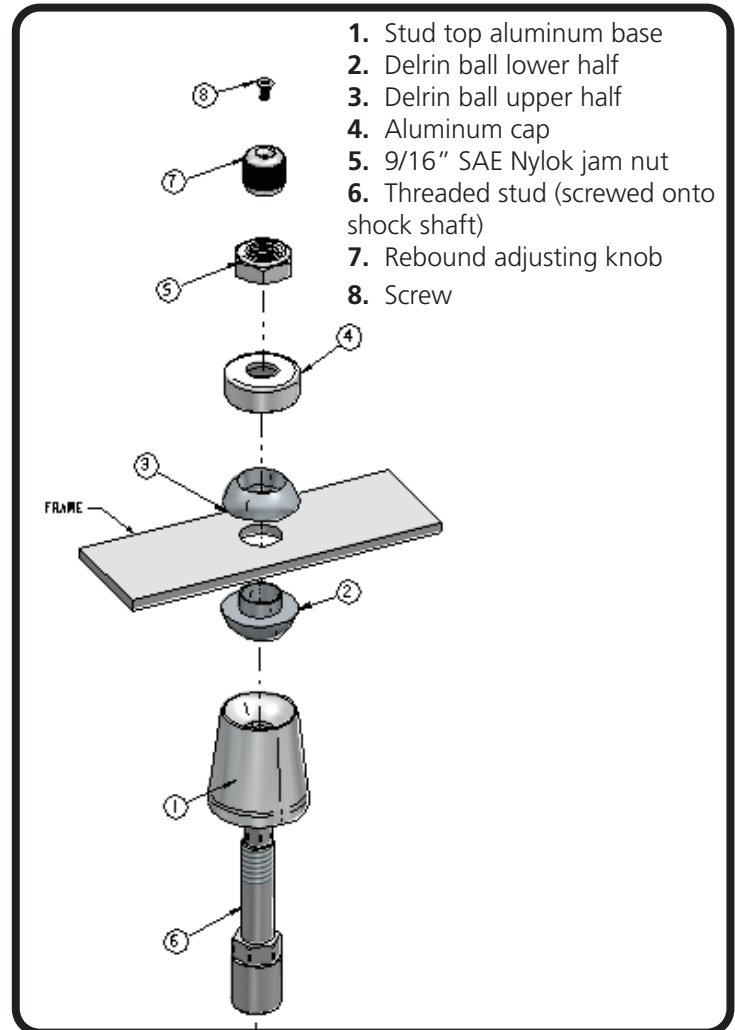

Figure 4
5. Place the ShockWave into the coil spring pocket with the stud sticking through the OEM shock hole. See Figure 4. The OEM shock hole must be drilled out to $\frac{3}{4}$ ".